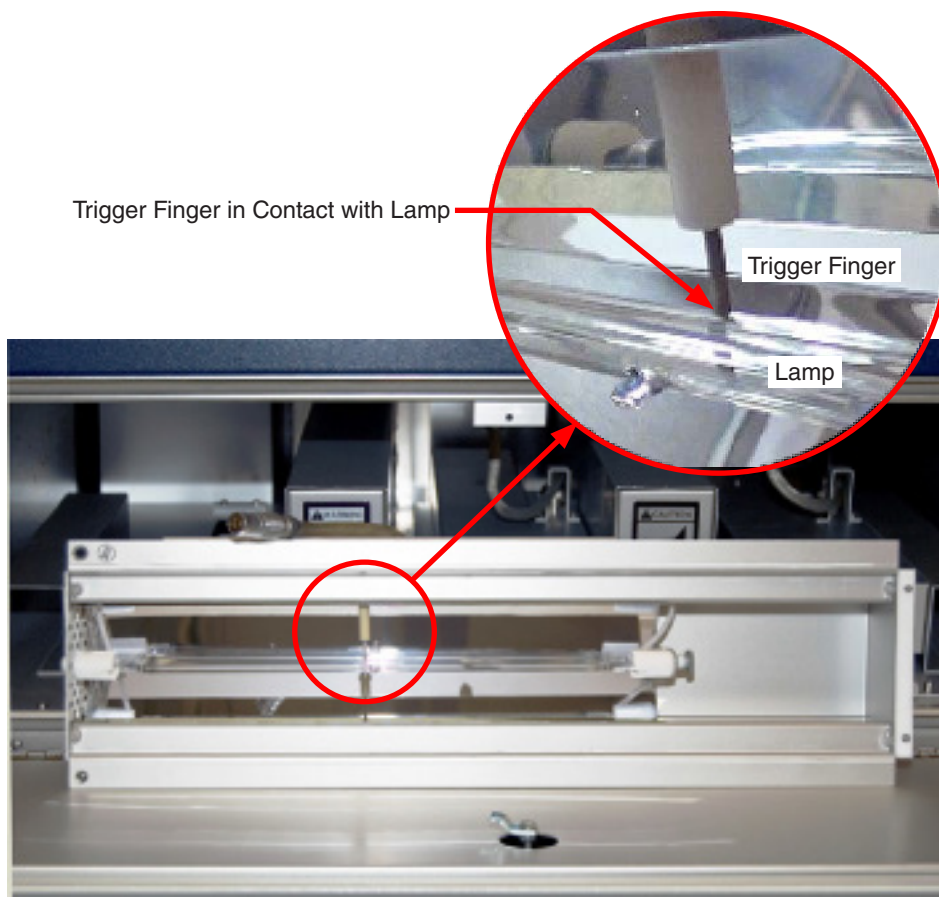

Figure 15.1f: Trigger finger in lamp housing.
- When installing the new lamp, make sure the trigger finger is in contact with the lamp but **is not exerting excessive force** (Figure 15.1f).